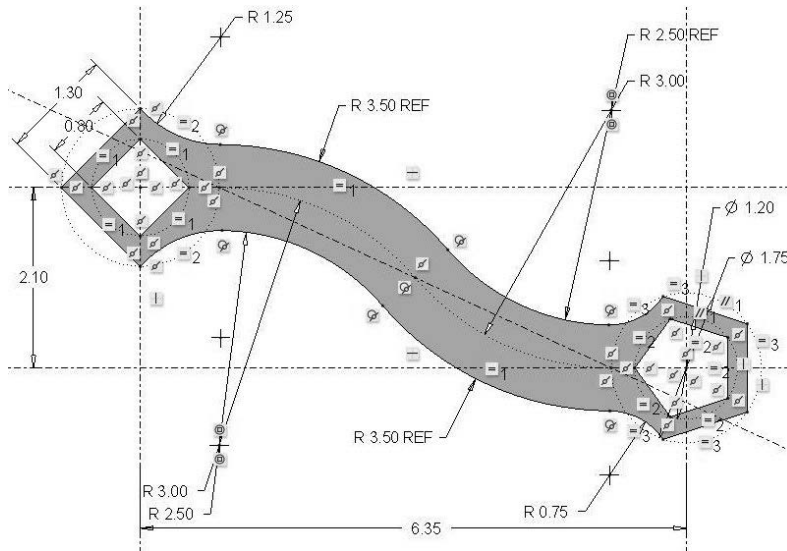

Figure 3-80 Problem 11—Special S Wrench
3.11 Challenge problem - Draw the "Special_S-wrench" (Figure 3-80). **Design Intent** — All arcs are tangent to each other and the edges of the two end shapes. The diamond shape is 1.30 inches per side. The outer pentagon fits inside a circle of 1.75 inches in diameter. The inner pentagon uses a 1.20-inch diameter circle. The 3-inch radius centerline is tangent at both ends and at its midpoint. The tangent points for the outer arcs are directly above and below the tangent point for the centerline arc.